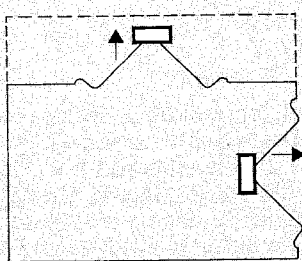

Fig. 1: The magnet system, one facing outward and one inward, compensates even-numbered harmonic distortion components.
- Eigentones of the box (resonance effects) can no longer be transmitted acoustically because the diaphragm is immune to external influences. This results in a linear frequency response (see Figure 1). The phenomenon of undefined box rumble is now a thing of the past.